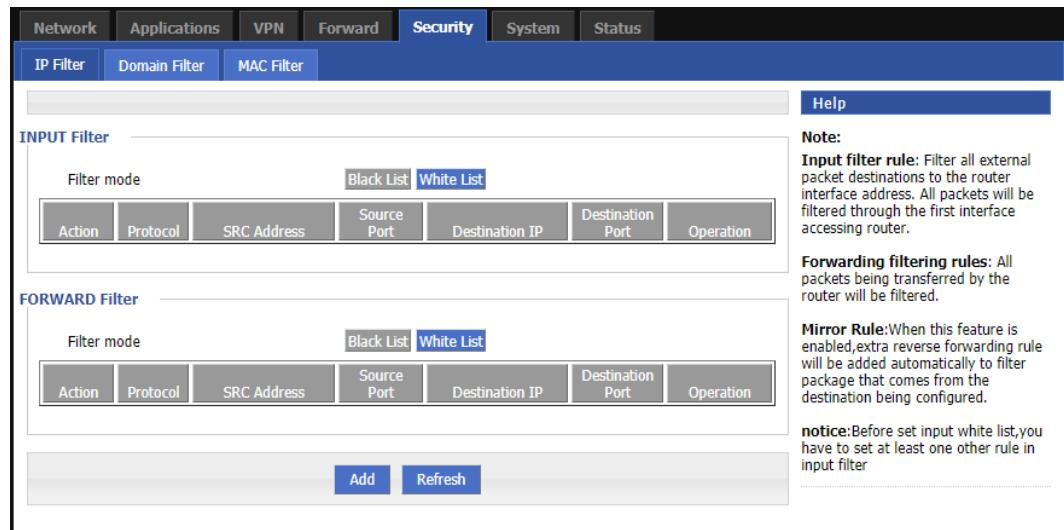

Figure 5-27 IP filter tab
Step 2 Click Security Settings>IP Filtering to open the IP Filtering tab, as shown in Figure 5-27.